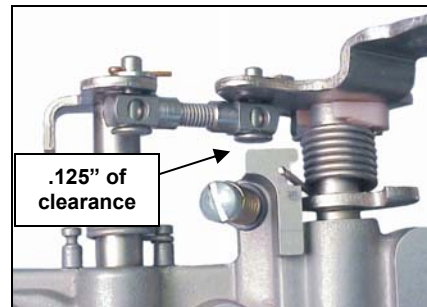

Figure 4 (1:1)
1. Install the Clevis pins through the link without any washers and install the link from the inside of the throttle arms (see Figure 4).
NOTE: For inside installation only: Make sure you have at least .125" between the head of the Clevis pin and the boss on the baseplate (where the idle adjustment screw is located). If you need more clearance, file or machine this area off of the baseplate (see Figure 4).